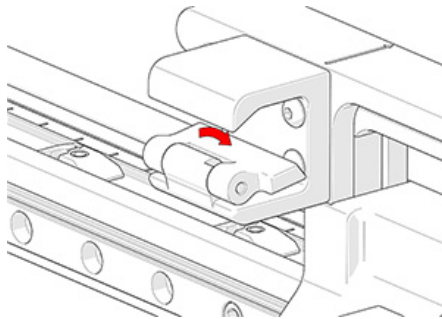

Figure 3-14 Carrier cable clip flap
1. Push the cable clip flap down (see Figure 3-14 on page 52).